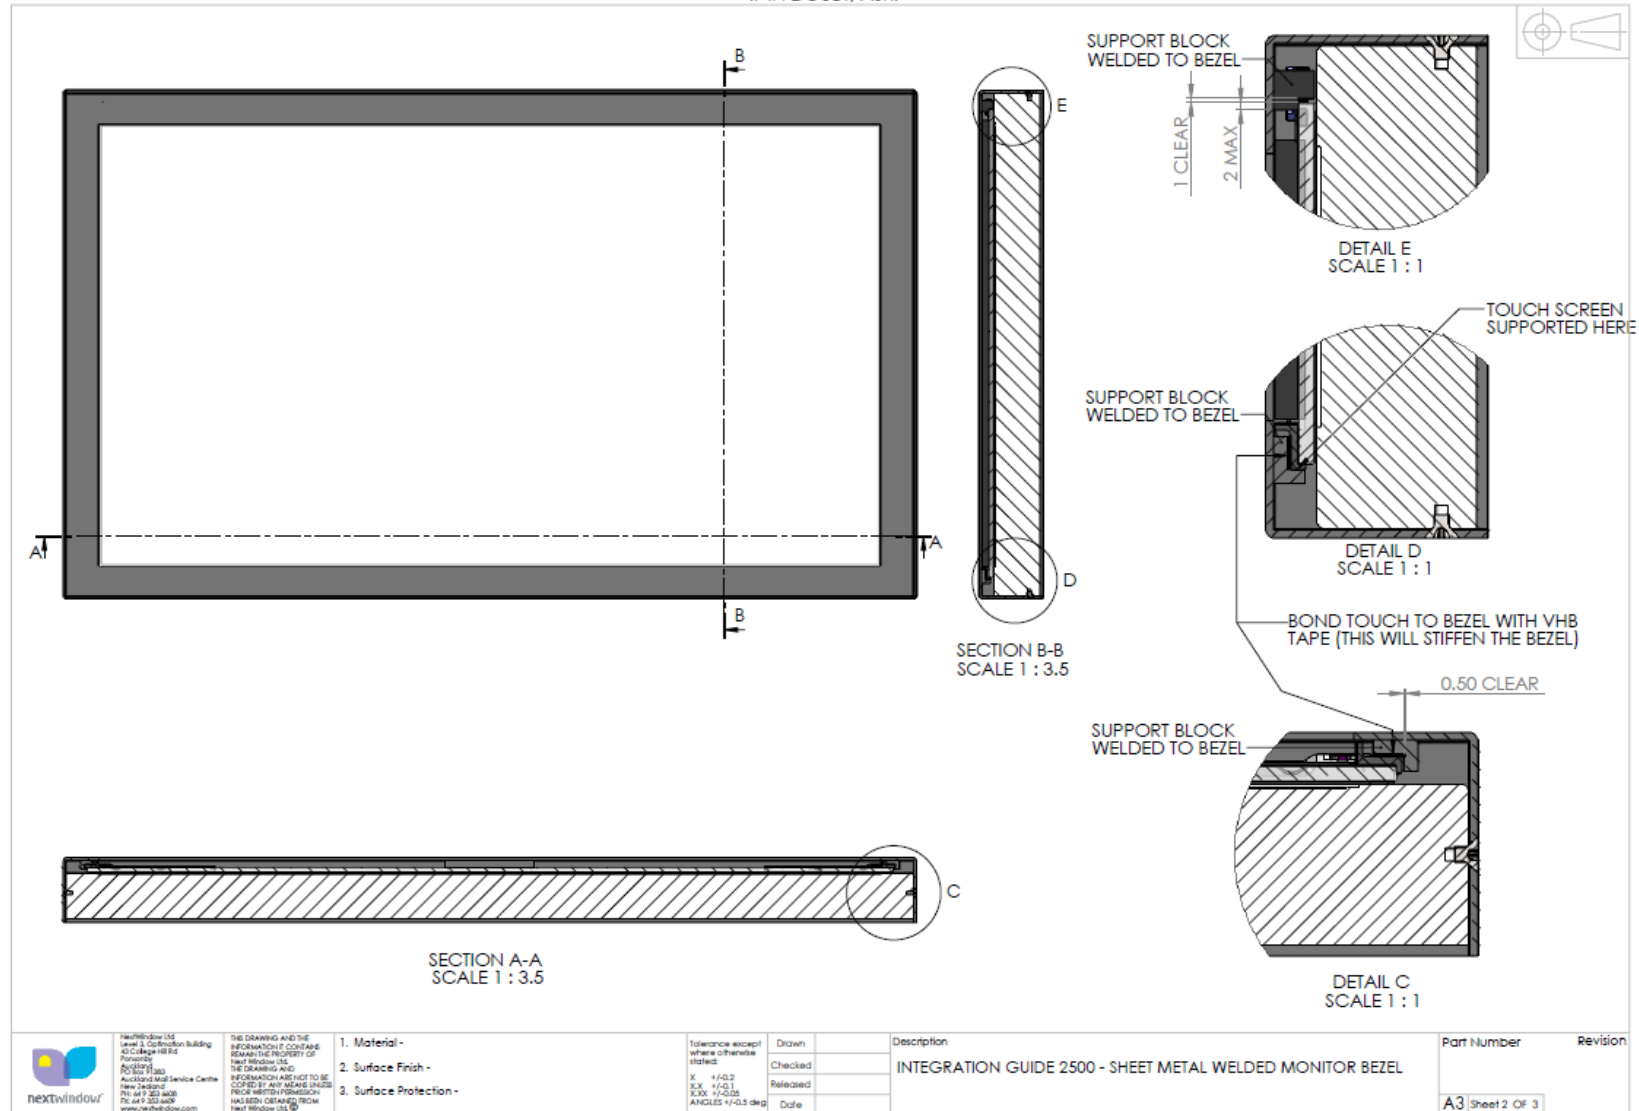

Figure 9: Detail of sheet metal welded monitor bezel showing integrated cross-sections.
- The bezel should comprise integrated support blocks or bars along the length of the base and sides of the bezel (See Figure 9 for detail) as a means of aligning the touch screen to the centre of the bezel and active area of the display panel.